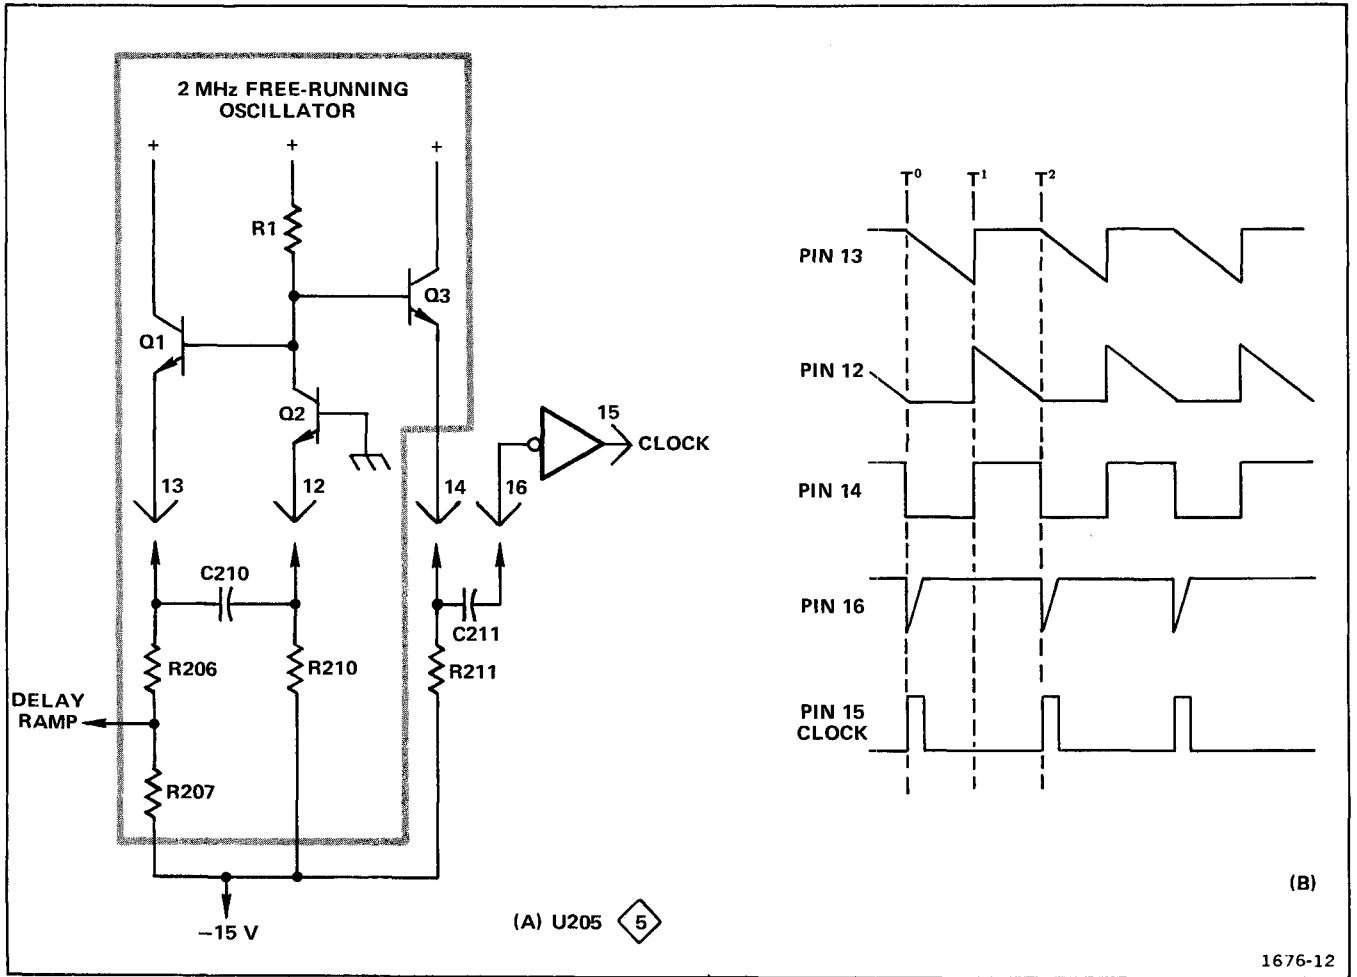

Fig. 3-6. (A) Diagram of Clock Generator stage; (B) Idealized waveforms for Clock Generator stage.
Part of integrated circuit U205, along with the external components shown in Fig. 3-6, make up the Clock Generator stage. Resistor R1 and transistors Q1, Q2, and Q3 represent an equivalent circuit within U205. This circuit, along with discrete components C210, R206, R207, and R210, compose a 2 MHz free-running oscillator to provide a timing (Clock) signal used to synchronize the amplifier plug-in unit chopping mode. Following is a description of the operation of this stage.
Assume that Q2 is conducting and Q1 is off. The collector current of Q2 produces a voltage drop across R1 to cut off Q1. This negative level at the collector of Q2 is also connected to pin 14 through Q3 as shown in Fig. 3-6 (B) at time T_0 . Since there is no current through Q1, capacitor C210 begins to charge toward -15 V through R206 and R207. The emitter of Q1 goes negative as C210 charges, until it reaches a level approximately 0.6 V more negative than the level at its base. Then, Q1 is forward biased and its emitter rapidly rises positive (see time T_1 on waveforms). Since C210 cannot change its charge instantaneously, the sudden change in voltage at the emitter of Q1 also pulls the emitter of Q2 positive. Then, Q2 is reverse biased and its collector rises positive to produce a positive output level at pin 14.